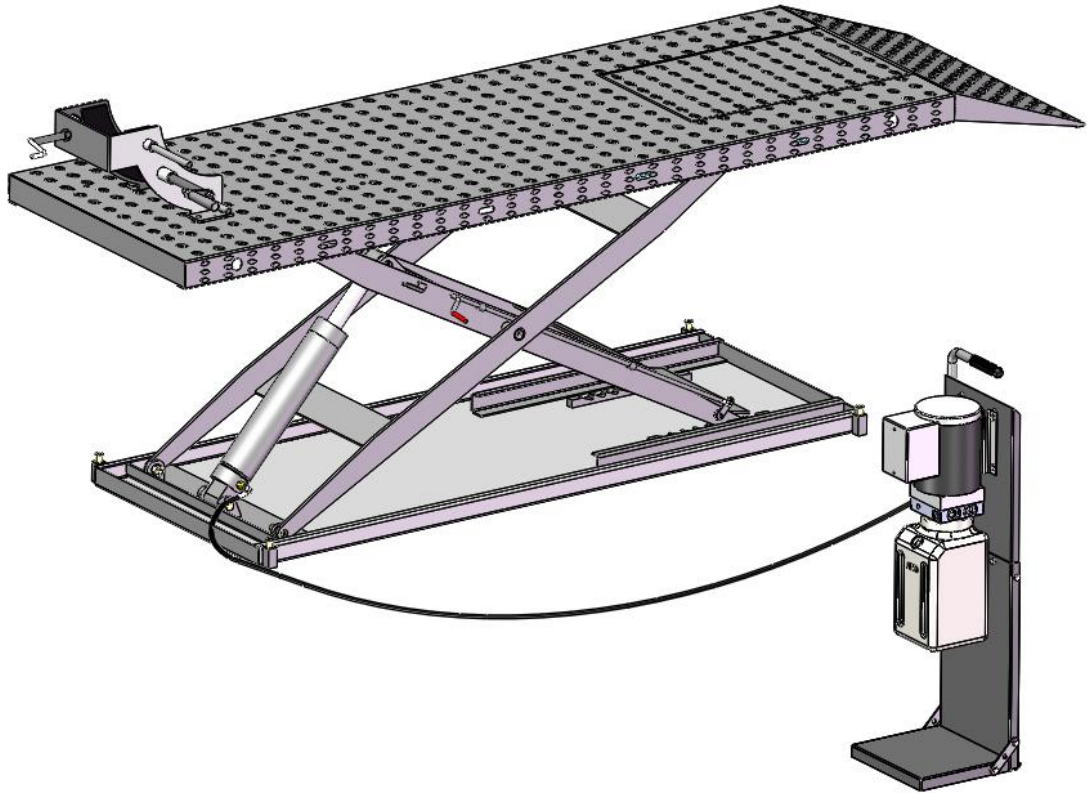

Fig .2
I. PRODUCT FEATURES AND SPECIFICATIONS (See Fig.2)